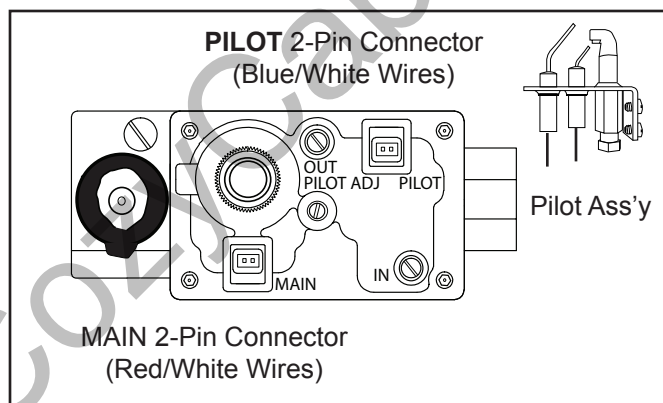

Fig. 6 Gas Valve Identification
1. Confirm that the "S" sensor wire and the "I" igniter wires are properly connected to the module "S" and "I" terminals on the module (See figure 6 for terminal locations).